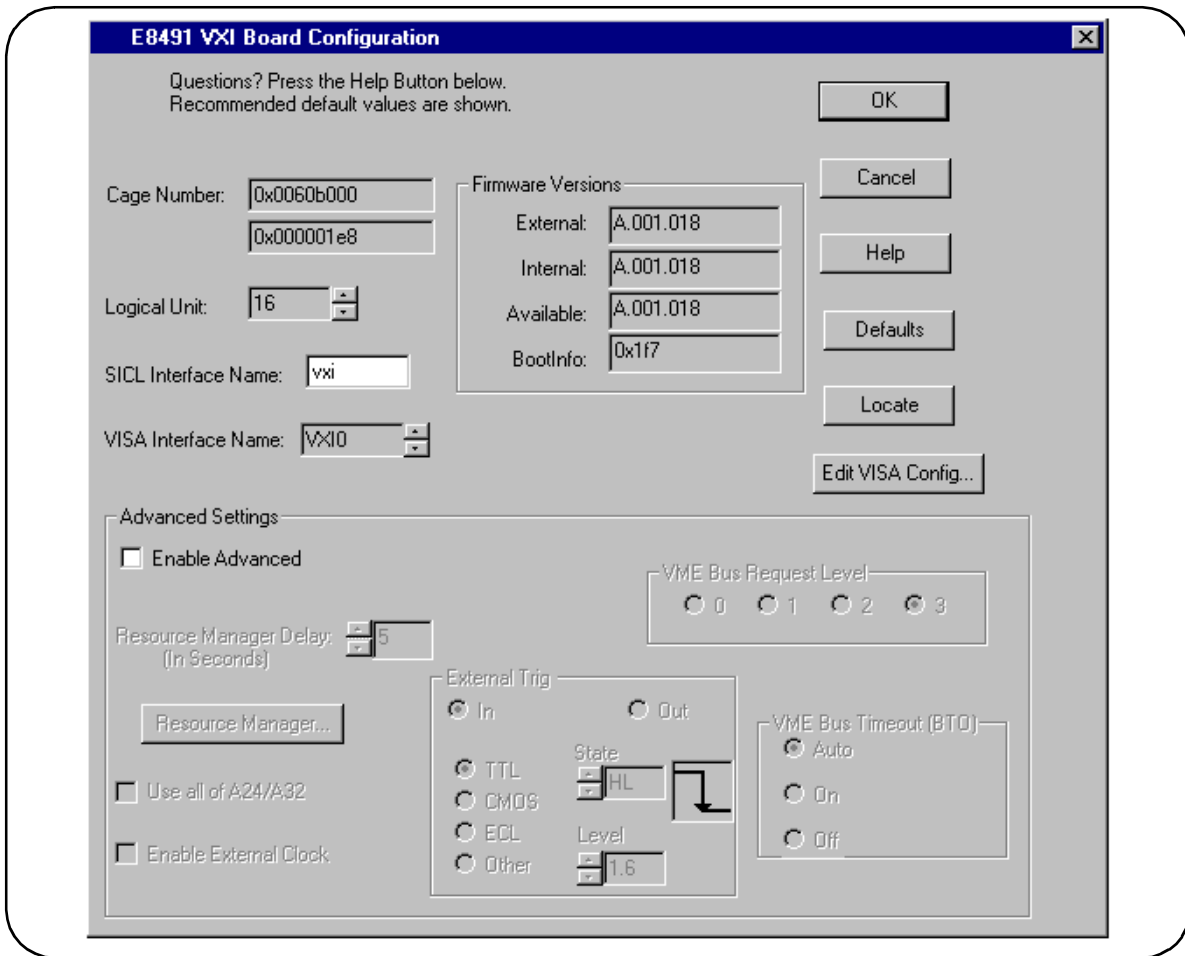

Figure 2-12. Editing the E8491B Configuration.
The E8491B uses the SICL interface name ‘vxi’ and the VISA interface name ‘VXI’ (Figure 2-12). The VISA interface number is assigned by the ‘I/O Config’ utility and is unique to each E8491B. The interface name and number identify each mainframe in multi-frame VXI systems, and are also used in addressing each instrument in the mainframe. The unique interface number allows instruments with the same logical addresses to be installed in different mainframes, but in the same system.
- 2a. Select the "Configured Interfaces" name corresponding to the E8491B to bring up the E8491 VXI Board Configuration window (Figure 2-12).